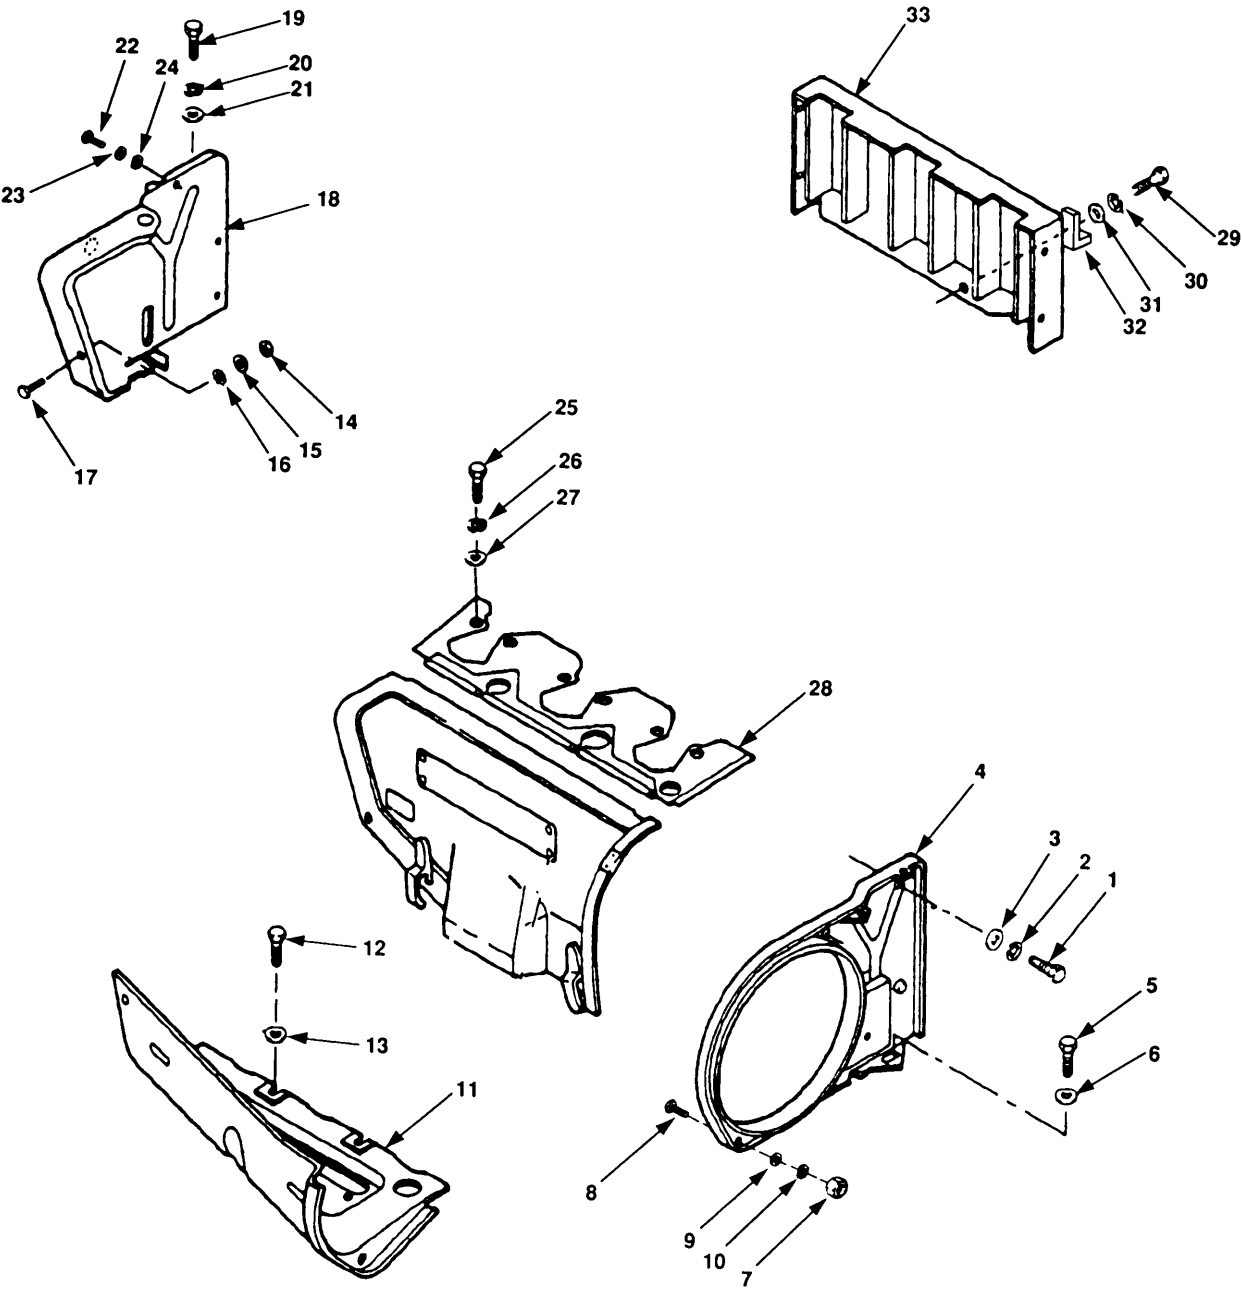

Figure 5-8. Engine Cowlings Maintenance.
- a. Remove three bolts (figure 5-8, 1), lockwashers (2), and washers (3) from forward vertical cowling (4).
- b. Remove bolt (5) and washer (6) securing forward vertical cowling (4) to engine.
- c. Remove nut (7), bolt (8), lockwasher (9), and washer (10) securing forward vertical cowling (4) to lower cowling (11) .
- d. Remove forward vertical cowling (4).
- e. Remove three bolts (12) and washers (13) attaching lower cowling (11) to engine.
- f. Remove nut (14), lockwasher (15), washer (16), and bolt (17), attaching lower cowling (11) to rear vertical cowling (18) .
- g. Remove lower cowling (11).
- h. Remove bolt (19), lockwasher (20), and washer (21) from rear vertical cowling (18) .
- i. Remove three bolts (22), washers (23), and lockwashers (24).
- j. Remove six bolts (25), one washer (26) and six washers (27) from cylinder cowling (28) .
- k. Remove cylinder cowling (28) and rear vertical cowling (18).